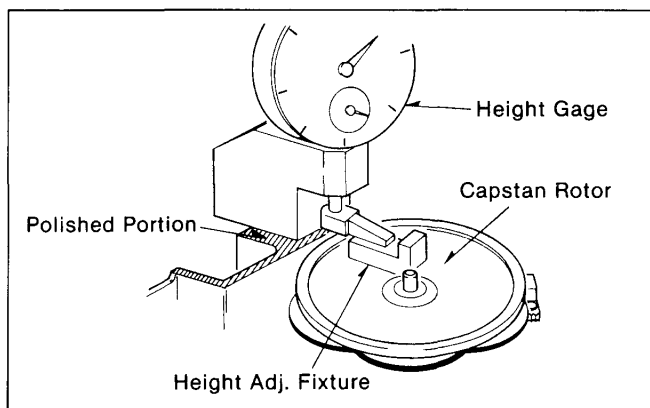

Figure M36
3. Set the Height Adjustment Fixture on the capstan Rotor unit as shown Figure M36.